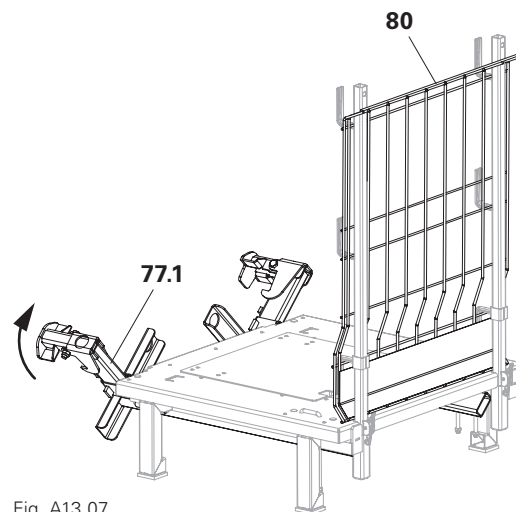

Fig. A13.07
2. Attach Side Mesh Barrier PMB 90 (**80a**). (Fig. A13.07)